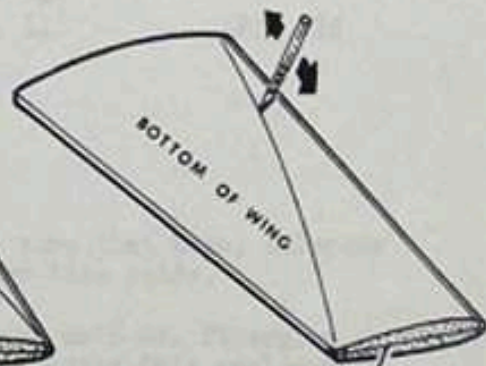

Fig. 9
B. If leading edge is warped up at tip (or trailing edge is down at tip), slit sheeting on bottom of wing as in figure 9.